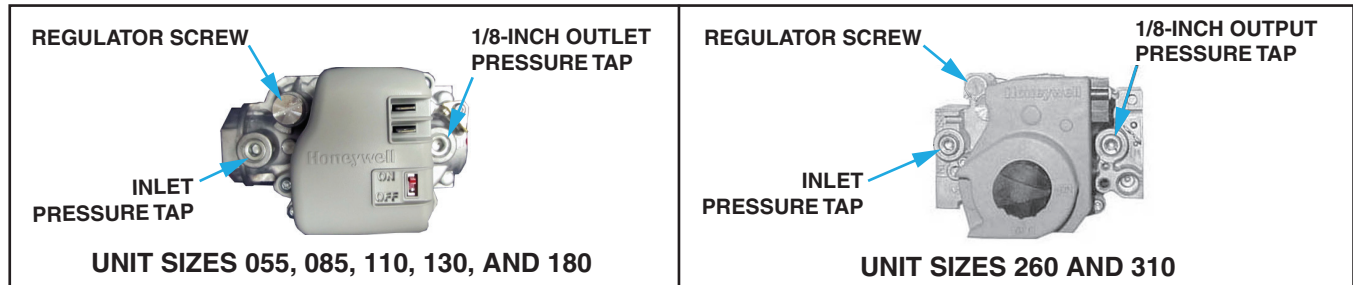

Figure 29. Combination Gas Valves
2. Connect manometer to 1/8-inch output pressure tap on valve (see Figure 29).
5. If manometer reading does not indicate that valve outlet pressure is in accordance with Table 22, remove cap from regulator screw(s) (see Figure 29) and adjust pressure by turning regulator screw IN (clockwise) to increase pressure or OUT (counterclockwise) to decrease pressure.
4. Connect manometer to 1/8-inch output pressure tap on valve (see Figure 29).
6. Remove cap from regulator screw (see Figure 29) and adjust pressure in accordance with Table 22 by turning regulator screw IN (clockwise) to increase pressure or OUT (counterclockwise) to decrease pressure.
10. Connect manometer to inlet pressure tap (see Figure 29). While heater is operating, measure inlet pressure, which should be between 5 and 13.5 IN WC for natural gas or between 10 and 13.5 IN WC for propane.